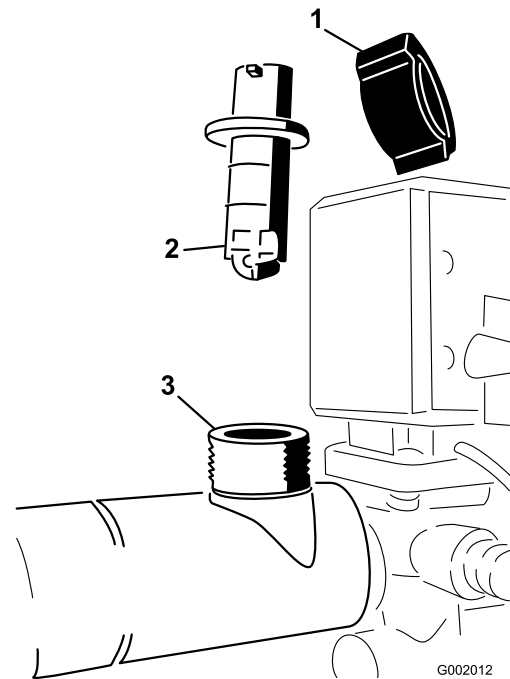

Figure 70
2. Remove the retaining cap from the flowmeter body (Figure 70).